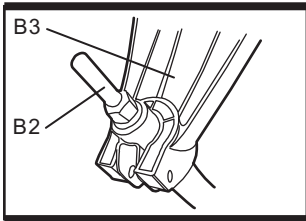

Fig. 4a
- b). Place the guard over the end of the spindle (B2) and align the holes in the front of the guard with the slots in the bracket on the shaft. (See Fig. 4a)